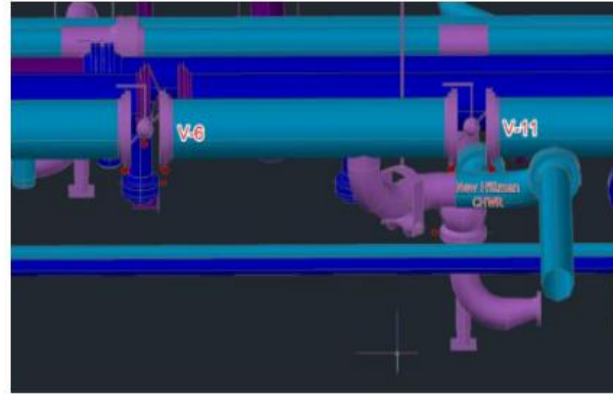

Figure 3A: Hillman tie-in valves
- Install header valve V-11 (30"). This will be used to get Hillman back on service early in Phase 2. (Figure 3A)